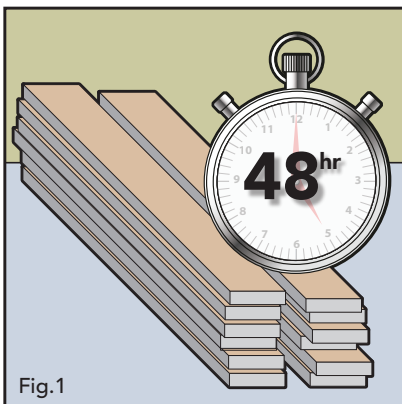

Fig.1
- Stack boxes no more than eight cartons high in areas to receive new flooring (remove plastic from outside of boxes if present). Ensure each layer is evenly supported to prevent distortion. Elevate stack using 2 x 4's as illustrated in Fig. 1 above. **On concrete; place a layer of 6 mil poly down first during the acclimation process.**